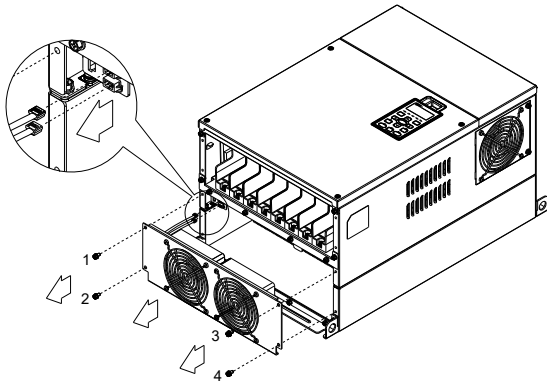

Figure 1
1. Loosen screw 1~4 (figure 1) and disconnect fan power and pull out the fan. (As shown in the enlarged picture 3) Screw1~4 Torque: 24~26 kg-cm / [20.8~22.6 lb-in.] / [2.4~2.5 Nm]